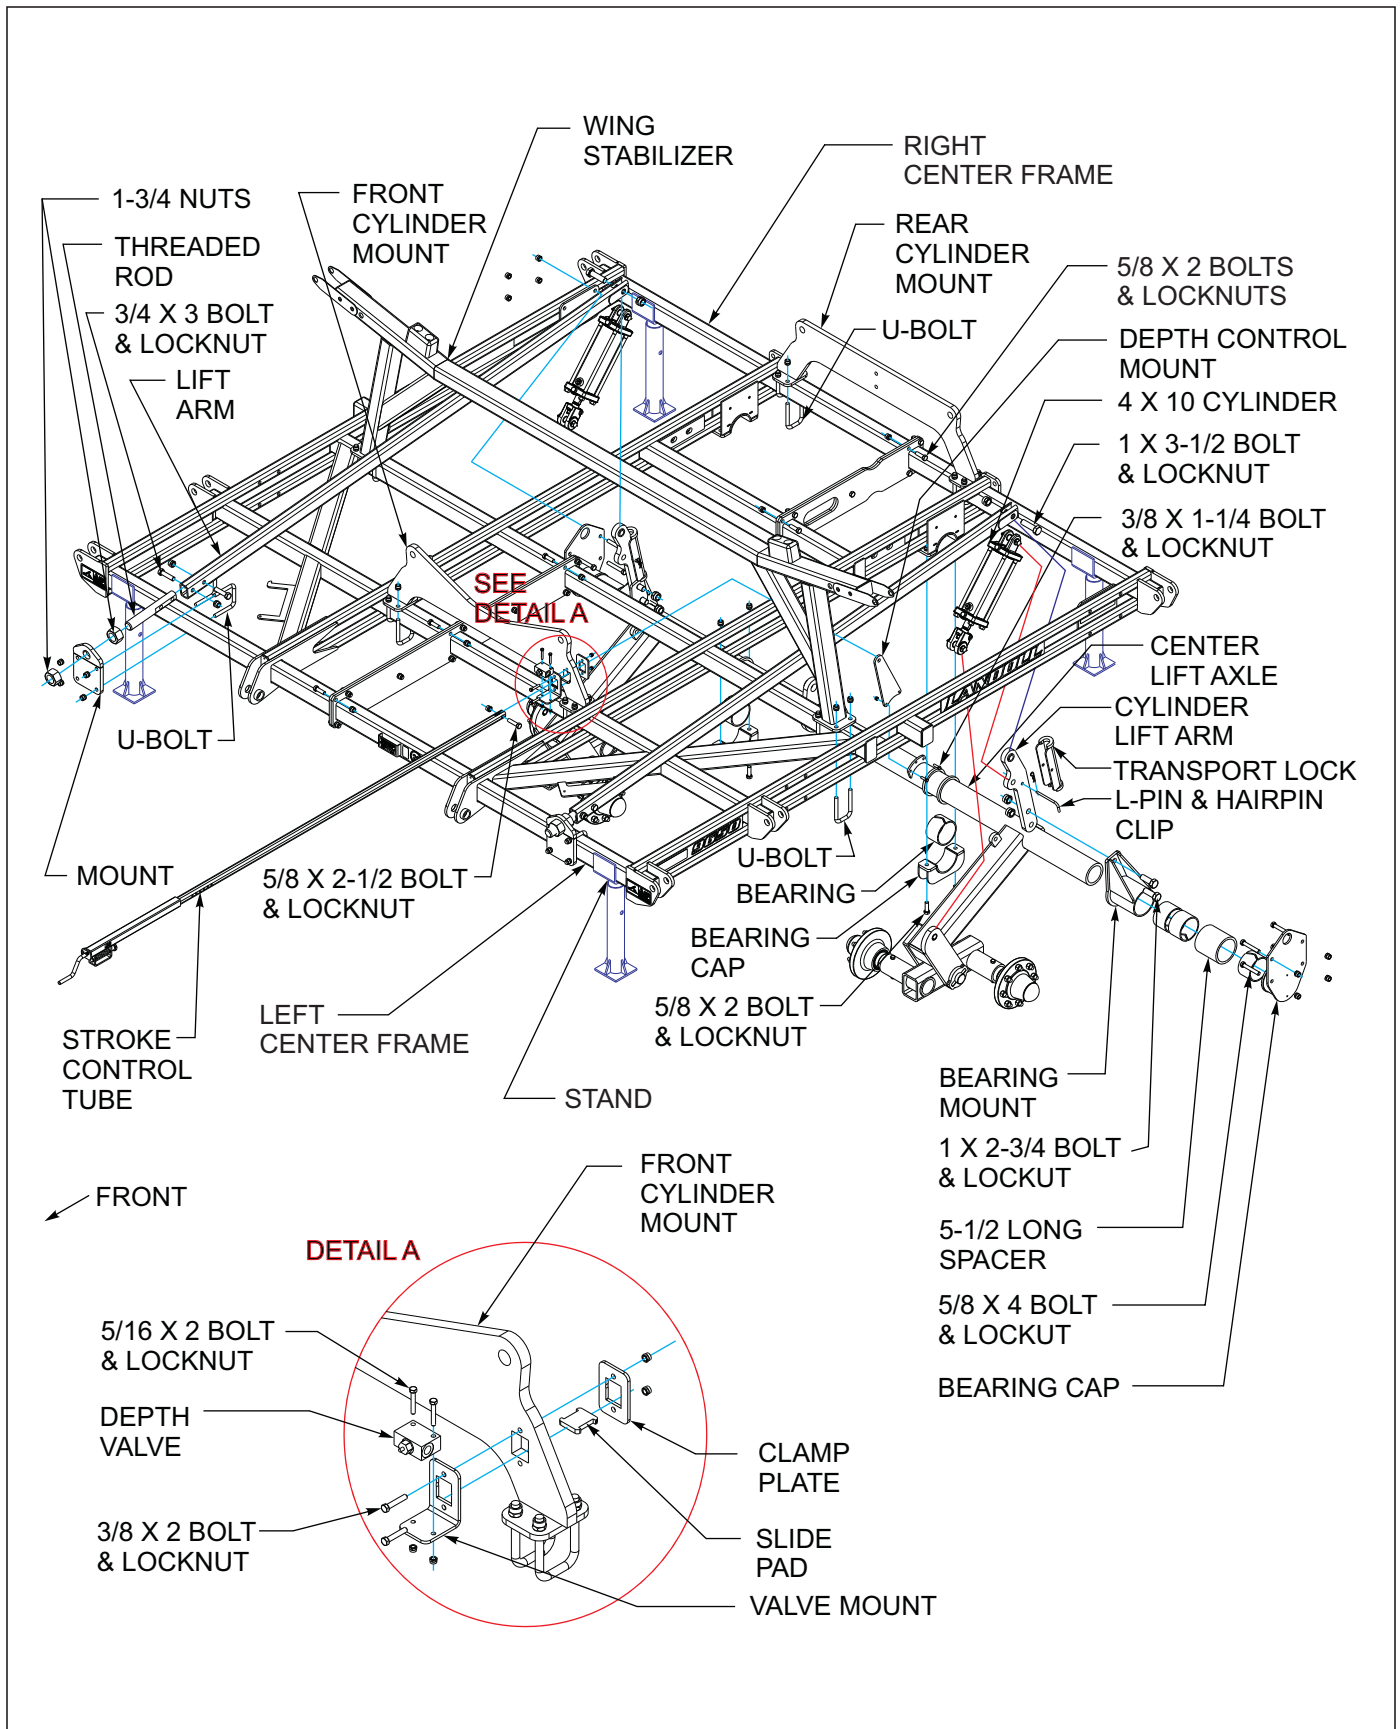

Figure 3-1: 9600 Center Frame Assembly
1. Bolt the two center frame halves together using 5/8 x 2 bolts and locknuts See Figure 3-1.